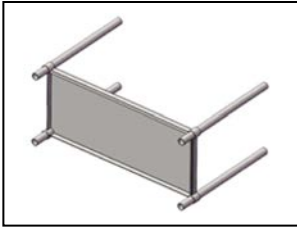

Fig 1
2. One by one, insert each leg into the corner socket of the under shelf [ Fig.1 ]